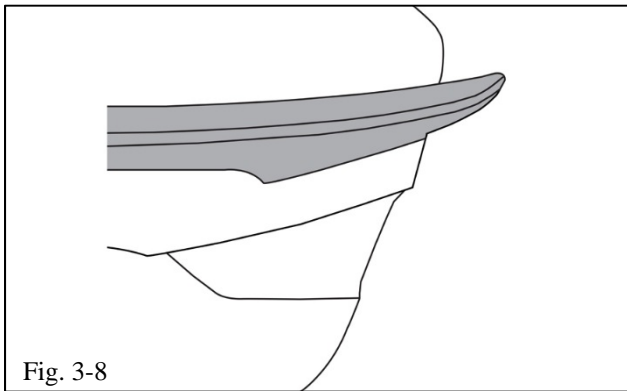

Fig. 3-8
- ⚠ (m) Firmly push down on the ends of the spoiler to engage the end clips (Fig. 3-8).